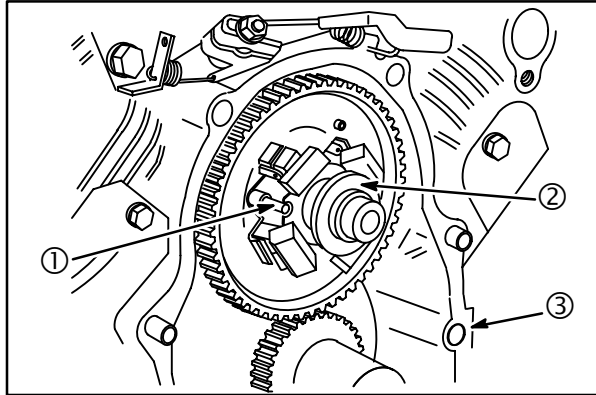

Fig. 5
3. Align timing marks on camshaft and crankshaft timing gear. Install camshaft, **Fig. 5**.
4. Assemble governor spool (2) to camshaft (except Models **540000**, **610000**).
- a. Install new O-ring (3) in cylinder.
- b. Make sure that spool engages flyweights and slot on spool fits over locating pin (1).